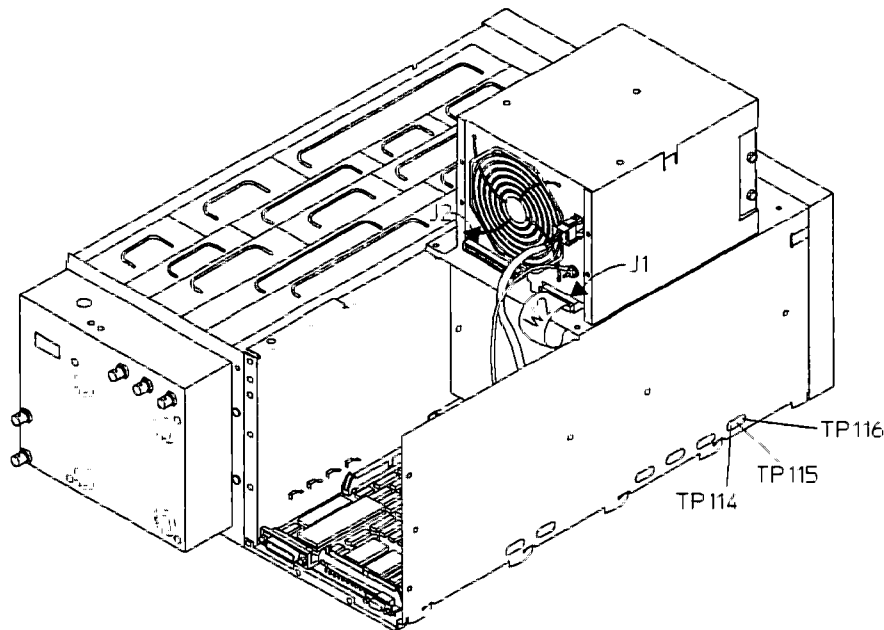

Figure 4-8. Display Controller Test Locations
1. Set the power switch to ON (I). Using a logic probe, check that the signals listed in table 4-7 are toggling (see figure 4-8 for test pin locations).